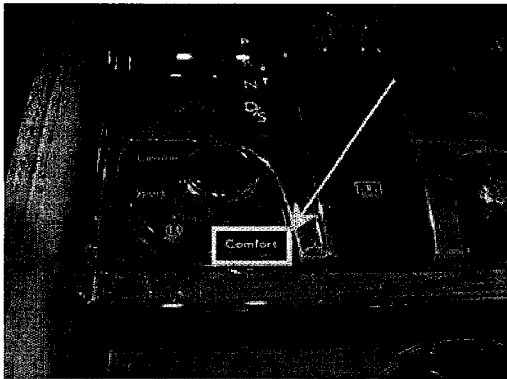

Figure 3
3. Before starting the software update ensure the drive dynamics switch is in Comfort mode (Figure 3) and the ride height is at the lowest setting as shown in Figure 4